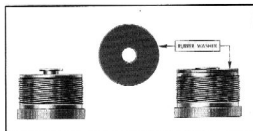

Fig. 25—Valve Seat Washer Assembly
2. Remove the valve seat washer from the button on the end plug, Fig. 25.
Check the clearance between the edge of the primary cup and the center of the compensating port, Fig. 25. In order to check this clearance accurately the main cylinder must be partially assembled as follows:
3. Push the piston and cup against the pedal stop and check the clearance between the edge of the primary cup and the center of the compensating port. This clearance should be a minimum of 35 thousandths of an inch. This check is made easiest by using a wire inserted through the reservoir of the housing and extending into the piston chamber, Fig. 25. If the clearance is less than 35 thousandths of an inch, the primary cup must be replaced with a new one.
1. Dip a new check valve seat washer in genuine hydraulic brake fluid, and assemble over the button on the end of the end plug, Fig. 25. Assemble a new gasket over the end plug and screw the end plug, valve seat washer and gasket into the main cylinder housing. Tighten the nut securely.